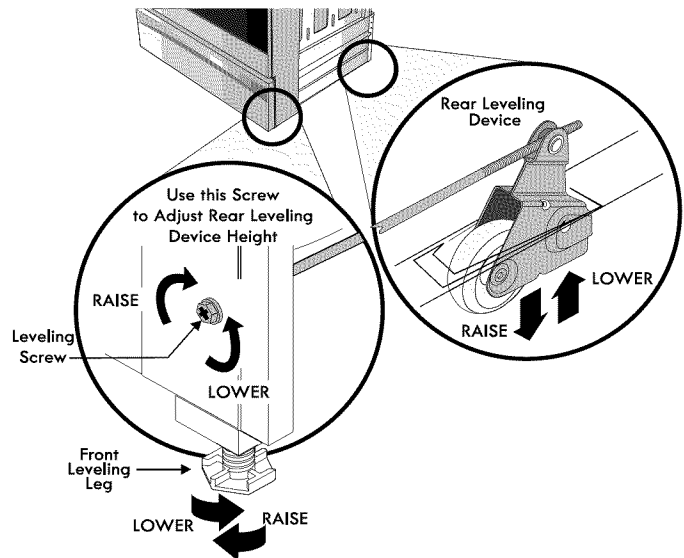

Figure 12
2. Adjust the appliance legs as follows until the underside of the cooktop (or cooktop glass) surface is sitting level on the countertop (Figure 12).